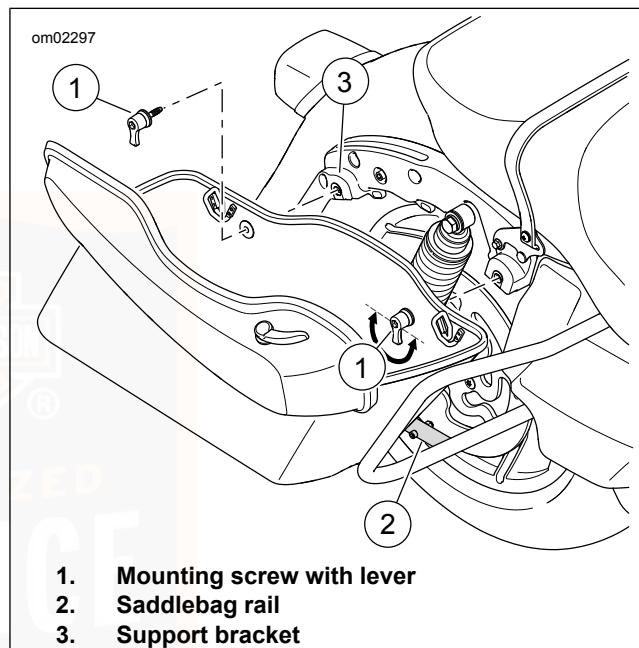

Figure 32. Saddlebag Removal/Installation
3. See Figure 32. Turn the mounting screw levers counterclockwise to remove the mounting screws from the support bracket.
1. See Figure 32. Carefully place saddlebag in position on saddlebag rail. Align the mounting grommets with the support bracket.